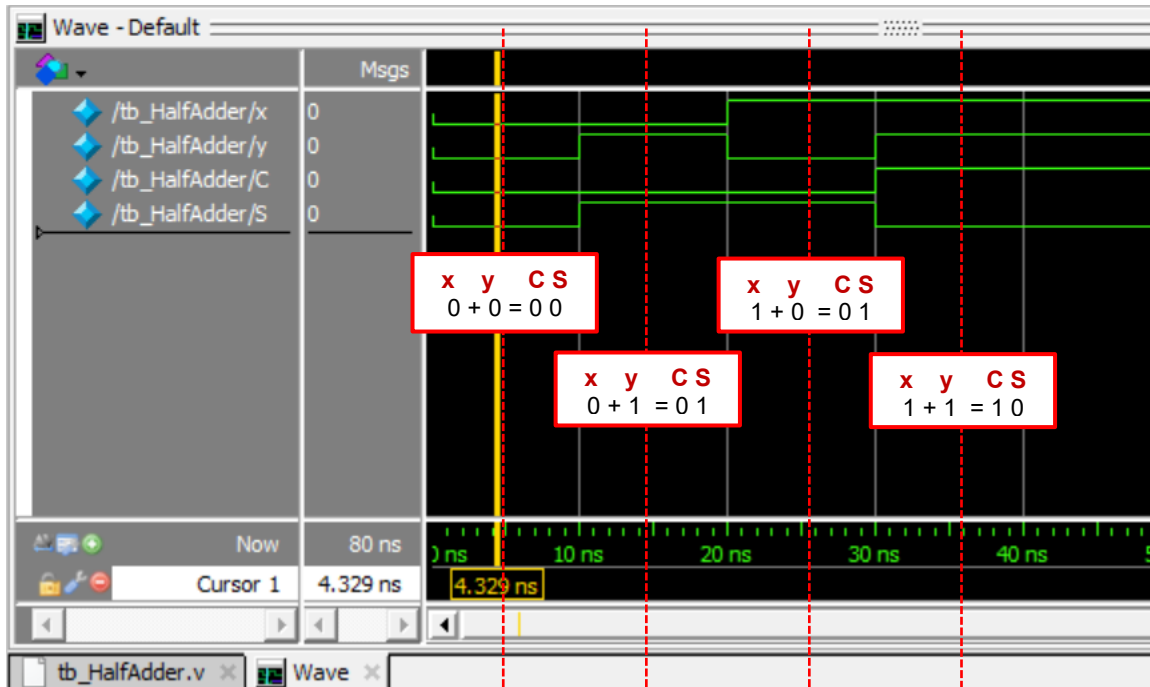

Figure 9. Testbench waveform for HalfAdder.v (with annotations)
15. The design is considered functionally verified if the waveforms follow the Half Adder functionality (*verify with its truth table*). Figure 9 shows an annotated version of the waveform screenshot to show that the results are functionally verified.
- **Testbench Waveform with your annotations**, such as in Figure 9